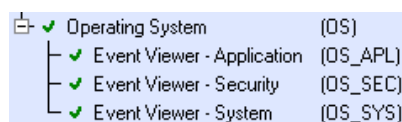

Fig. 10.7.5.-1 Operating System objects with terms
The Operating System (OS) events generated by the OS are available by using the Event Viewer in Administrative Tools. The part of the project tree belonging to Operating System is shown in Fig. 10.7.5.-1, together with the designations that are used in the object box (shows selected object).